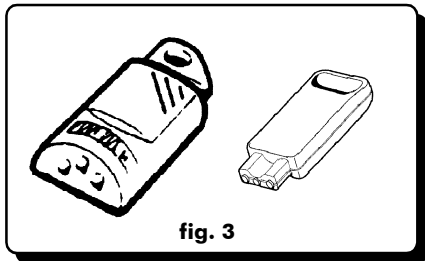
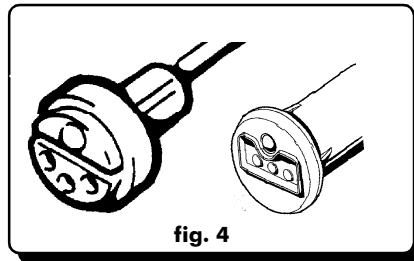

fig. 3
fig. 4
The internal immobiliser (921K) activates automatically after 30 seconds of turning the ignition OFF or 60 seconds after the alarm has been disarmed using the remote control, without turning the ignition key ON. The LED (see fig. 4) installed on the dashboard will begin flashing rapidly to indicate that the internal relay is in the immobilised condition. Whilst in the passive immobilised condition, when the ignition is turned ON the alarm will generate audible tones. If the passive immobilisation is not disarmed by the 10th audible tone the alarm will fully arm and then sound an alarm condition.
The alarm system can also be armed using the electronic key (See fig. 3). Placing the key on the LED receptacle (See fig. 4) arms the alarm without activating the power locking system. The direction indicator lights will flash twice and the alarm may give two audible tones, (programmable function) generated at the same time to indicate that the system has been armed. Then the LED (see fig. 4) in the passenger compartment will remain on for 30 seconds (pre-alarm time) and
If the alarm system was previously armed using the electronic key, you will have 10 seconds to enter the vehicle before an alarm condition occurs. Therefore you can open the power locking system manually, enter the car and place the electronic key on the receptacle (see fig. 4). If an alarm condition occurs, consult the paragraph "**ALARM AUTO-DIAGNOSTICS**" paragraph.
- 3 Remove used battery (fig. 3).
- 4 Insert the new battery taking care to only touch the sides (not on the contact surfaces with the metal contact and the printed circuit), into the centre compartment with the metal contacts (fig. 4).